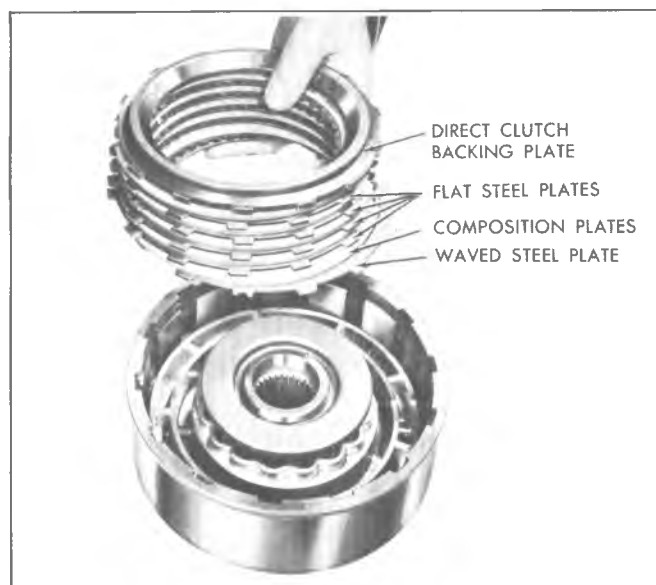

Fig. 7A-104C--Install Direct Clutch Backing Plate, Composition Plates, and Steel Plates
followed alternately by four (4) composition plates and three (3) flat steel plates. (Fig. 7A-104C).
b. (Models CB, CD and CL) Oil and install six (6) composition and six (6) flat steel plates, starting with a flat steel plate and alternating composition and flat steel clutch plates.